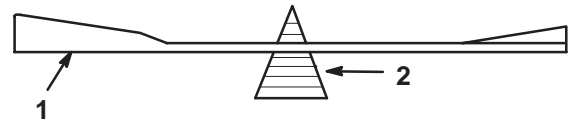

Figure 40
2. Check the balance of the blade by putting it on a blade balancer (Fig. 40). If the blade stays in a horizontal position, the blade is balanced and can be used. If the blade is not balanced, file some metal off of the back side of the blade. Repeat this procedure until the blade is balanced.